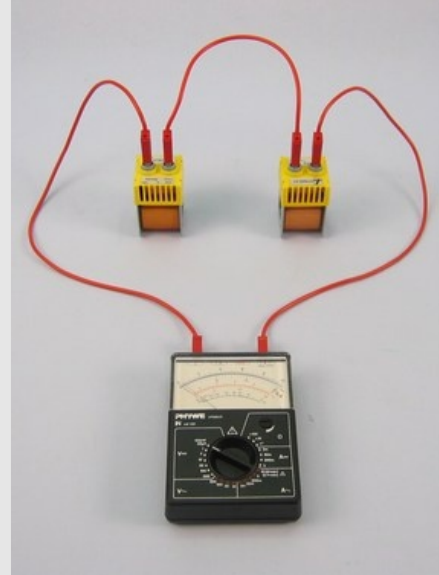

Fig. 1
- Set up the experiment according to Fig. 1.